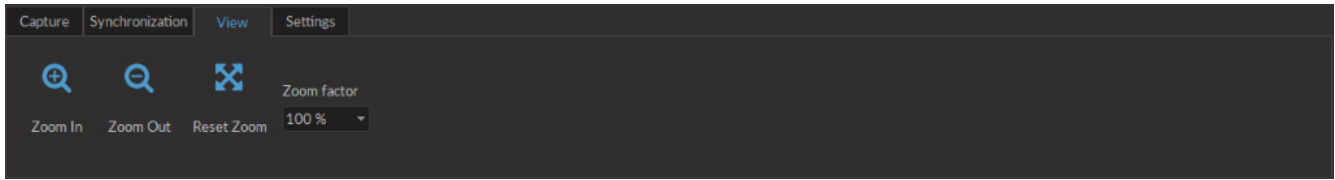

Figure 3.46: Camera Module - View Tab
3. The **View** tab (Fig. 3.46) allows the zoom of the video to be modified.